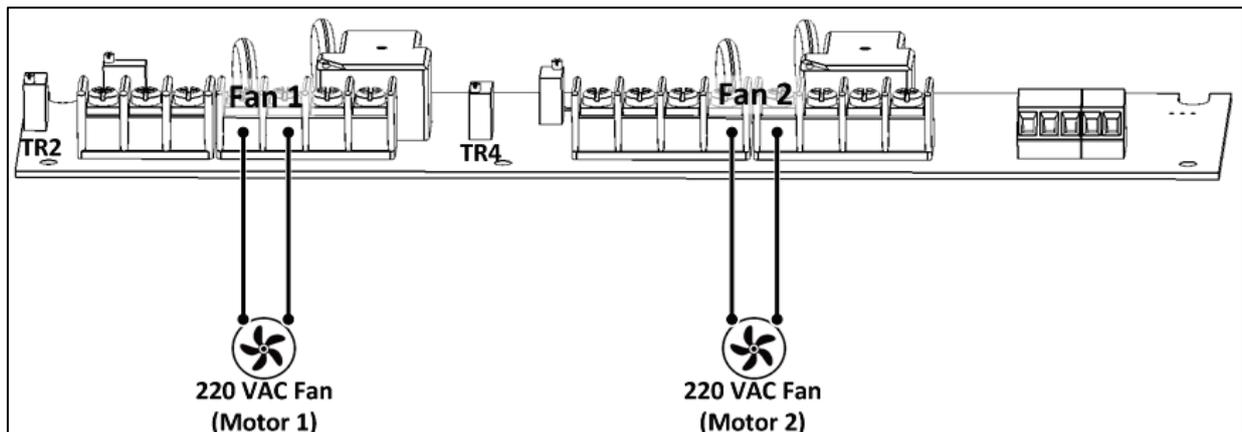

Figure 44: Variable speed card to fan wiring
2. Wire the Motor 1 and / or Motor 2 to the Variable Speed Card Fan 1 / Fan 2 ports, respectively (Figure 44).